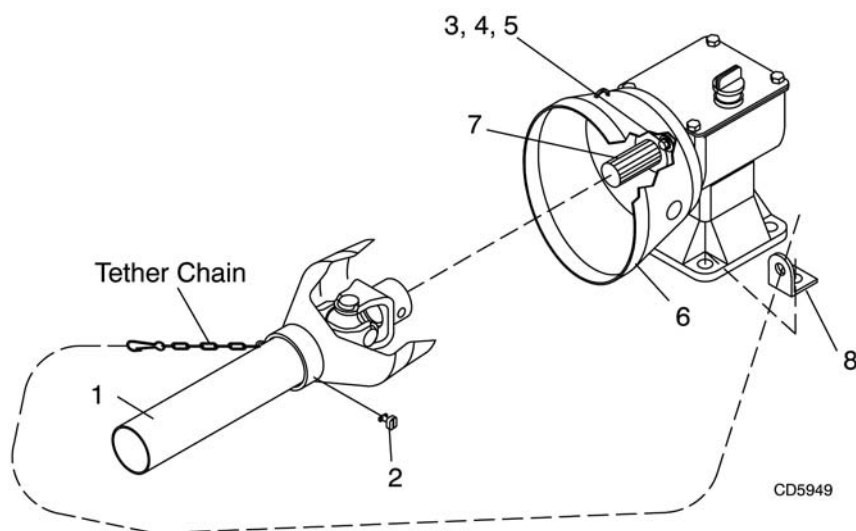

Figure 26. Rear Driveline Installation - RM990
Attach counter-cone shield (6) over gearbox output shield (7) using four 5/16" cap screws (3) OR M8 cap screws (4) and lock washers (5). See Figure 26.